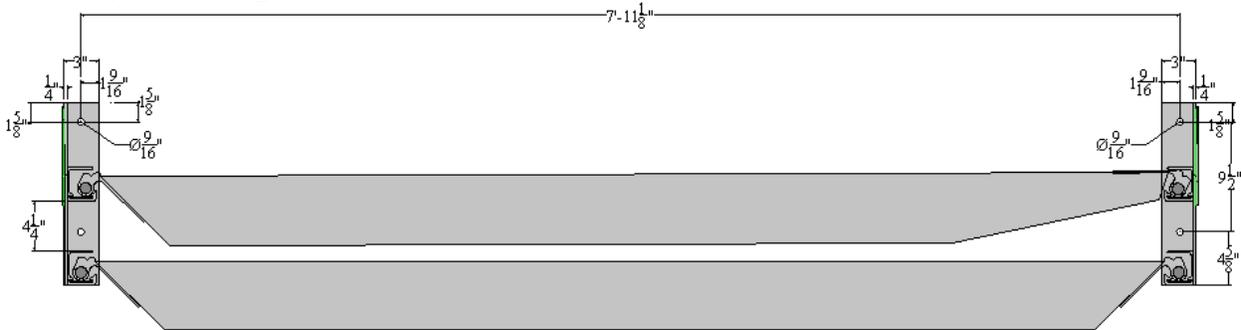

Figure 10 – Front View of Ramp Storage Rack w/ ramp sections stored in lower & upper receiver positions
12) Now insert another ramp section into the upper receiver position/slot on the storage rack, as depicted in Fig. 10 below: